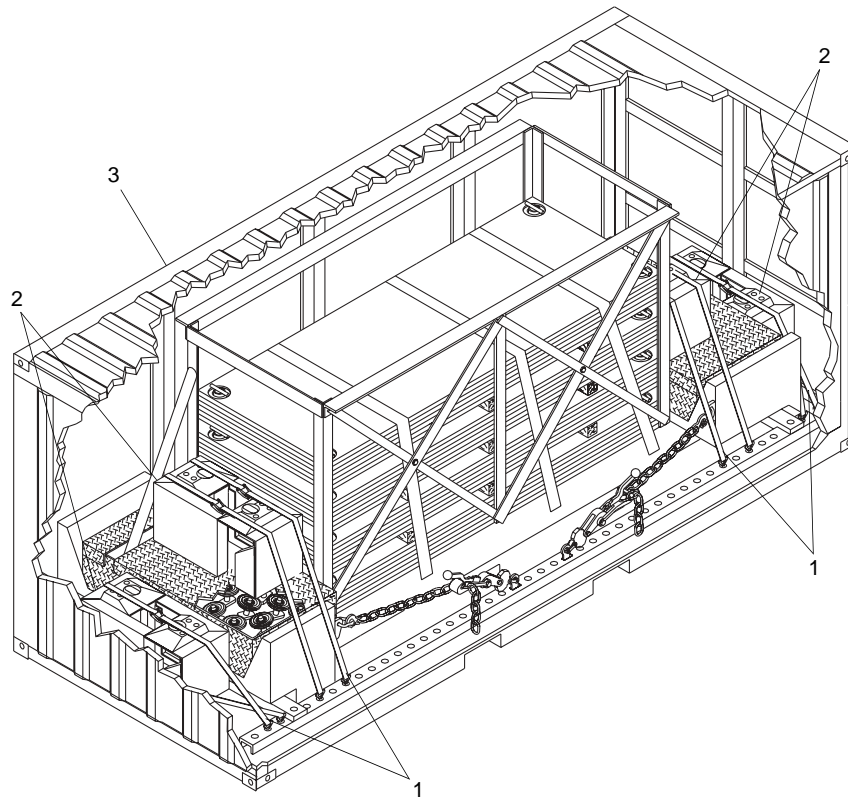

Figure 4. Deck Mat Container
3. Remove tie down straps (figure 4, item 1) securing corner fenders (figure 4, item 2) in deck mat container (figure 4, item 3).